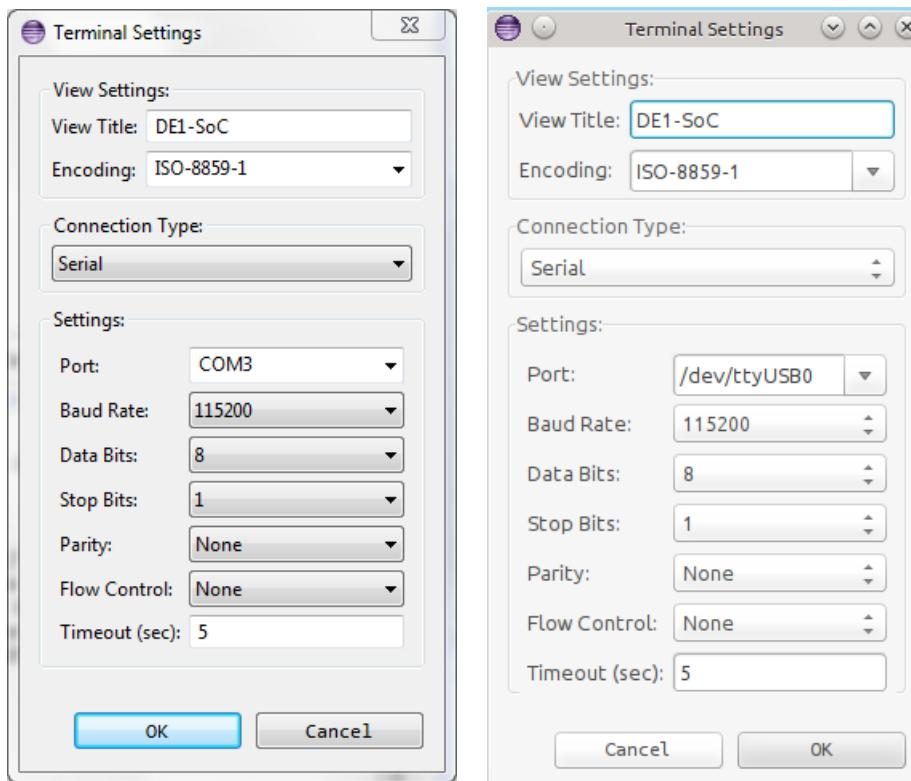

Figure 13-4. ARM DS-5 Serial Terminal Settings (Windows settings on the left, Linux settings on the right)
6. Modify the serial terminal’s settings to match those shown in Figure 13-4, then press “OK” to start the connection.